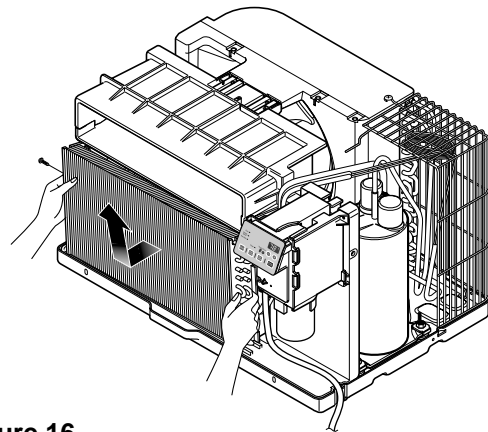

Figure 16
6. Re-install the components by referring to the notes – on pages 11-13. (See Fig. 16)